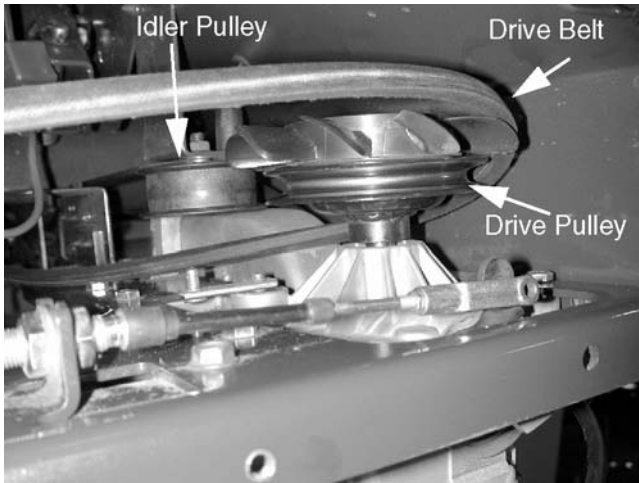

Figure 11-19
15. Remove the drive belt from the idler pulleys and the drive pulleys on top of the IZTs, and withdraw it from the back of the tractor. See Figure 11-19.